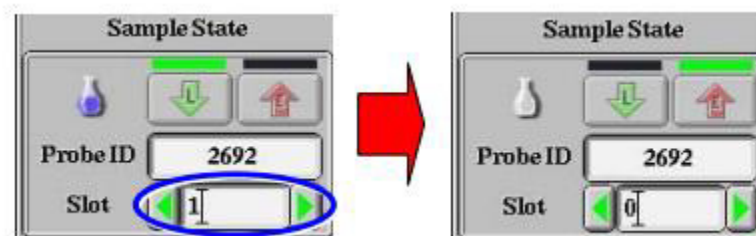

Fig. 4.0: Sample state box
- ii. Enter "0" in the slot column (Fig. 4.0)